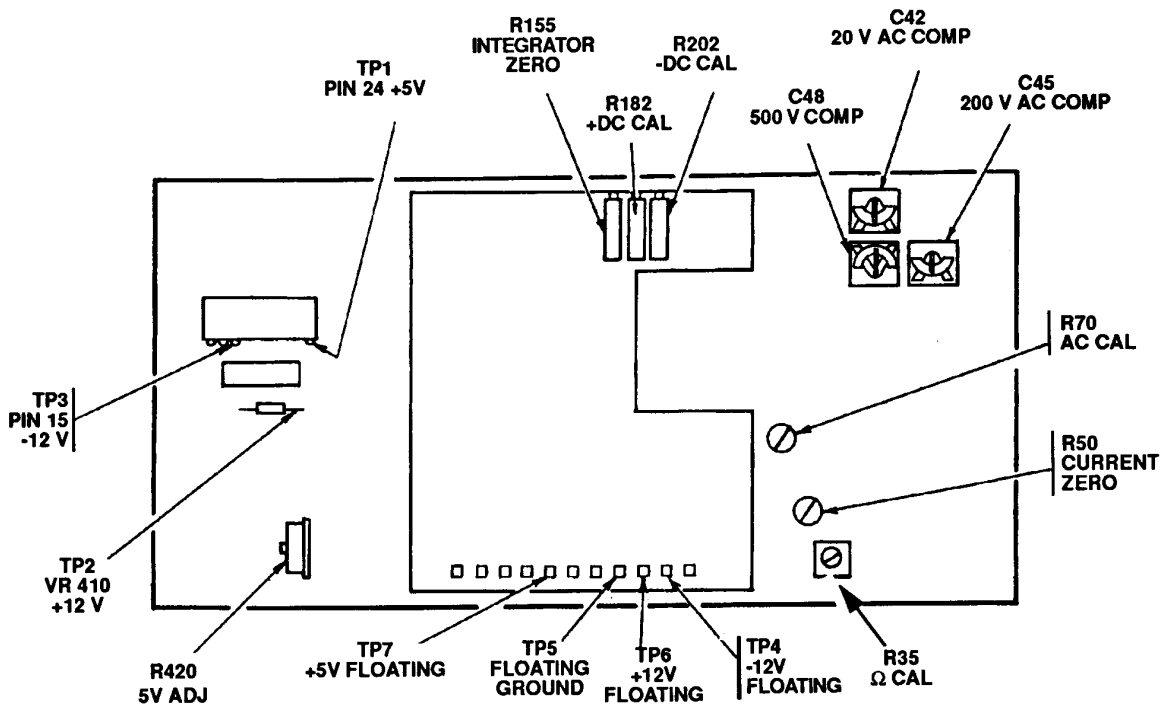

Figure 1. Tektronix, Type DM 501 - left side view.
b. Adjustments. Adjust R155 INTEGRATOR ZERO (fig. 1) until TI indicates all zeros.
- (1) Connect calibrator **OUTPUT** to TI **INPUT HI** and **LO** terminals.
- (2) Set **RANGE/FUNCTION** switch to **200K OHMS**.
- (3) Set calibrator for a 190 kΩ output. Adjust calibrator's output adjustment control for a calibrator control display reading equal to the TI's indication. The calibrator's control display **ERROR** indication will be ± 0.31 percent; if not, perform **b** below.
- (4) Repeat technique of (2) and (3) above using values listed in table 4. Calibrator's **ERROR** display will be within the limits specified.
b. Adjustments. Adjust R35Ω CAL (fig. 1) for a T1 indication equal to calibrator's displayed value for 190 kΩ (R).
- (2) Set TI **RANGE/FUNCTION** switch to **2 DC mA**. If TI does not indicate .0000, perform **b** below.
- (3) Set TI **RANGE/FUNCTION** switch and calibrator output as listed in table 5. TI will indicate within the limits specified.
b. Adjustments. Adjust R50 CURRENT ZERO (fig. 1) until TI indicates .0000 (R).
(1) Connect digital multimeter between TP 1 PIN 24 +5V (fig. 1) and chassis ground. If digital multimeter does not indicate between 4.9 and 5.1 V dc, perform **b** below.
(2) Connect digital multimeter positive lead to TP 2 VR 410 +12 V (fig. 1). Digital multimeter will indicate between 11.0 and 13.0. V dc.
(3) Connect digital multimeter positive lead to TP 3 PIN 15 -12 V (fig. 1). Digital multimeter will indicate between -11.4 and -12.6 V dc.
(4) Connect digital multimeter positive lead to TP 6 +12 V FLOATING (fig. 1) and negative lead to TP 5 FLOATING GROUND. Digital multimeter will indicate between +11.4 and +12.6 V dc.
(5) Move digital multimeter positive lead to TP4 -12 V FLOATING. Digital multimeter will indicate between -11.4 and -12.6 V dc.
(6) Move digital multimeter positive lead to TP 7 +5 V FLOATING. Digital multimeter will indicate between +4.5 and +5.5 V dc.
b. Adjustments. Adjust R420 5 V ADJ (fig. 1) until digital multimeter indicates +5.00 V dc (R).